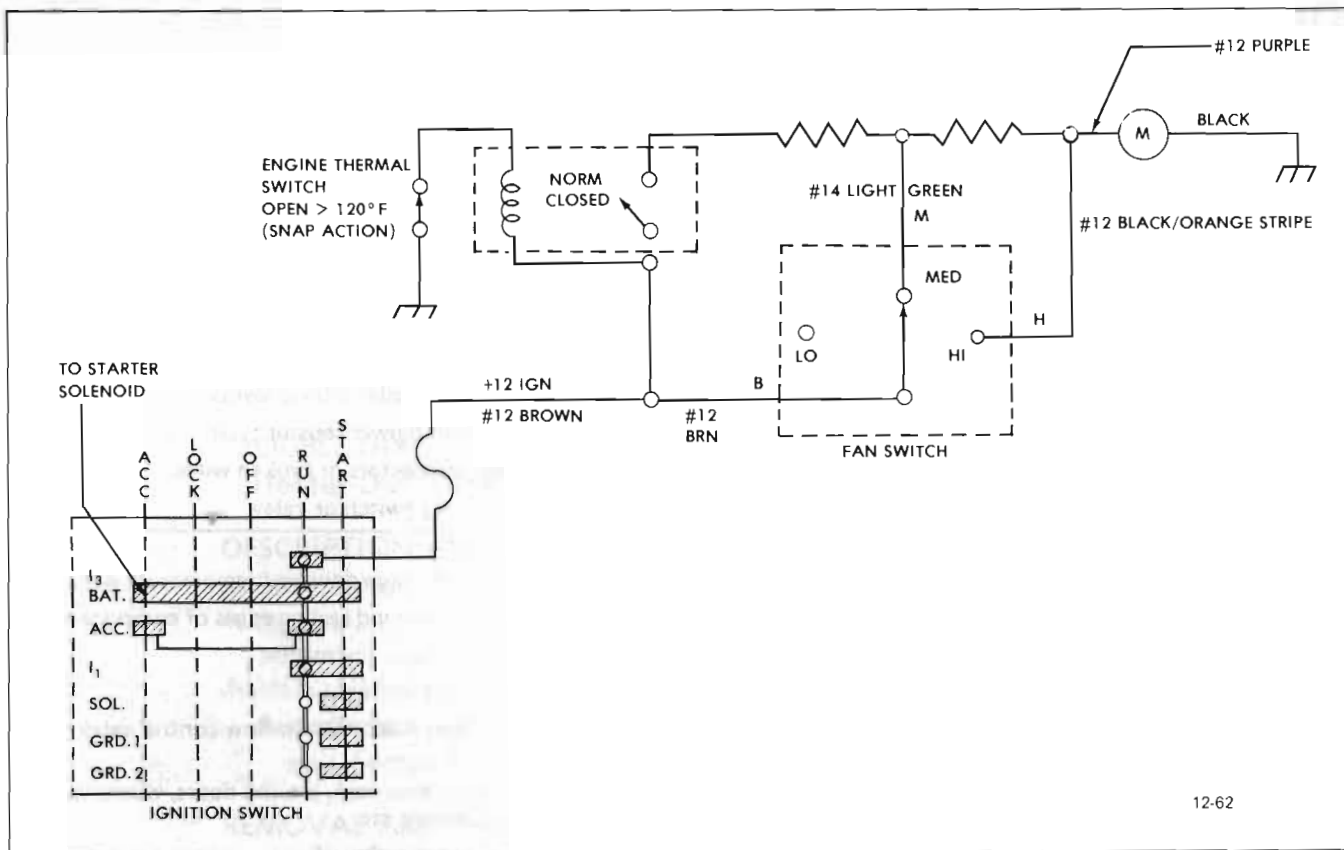

Figure 12-9 Heater System Wiring Diagram
The heater system is an air mix type system in which outside air is heated and then mixed in varying amounts with cooler outside air to attain the desired air temperature. The system consists basically of three parts: (1) the blower and air inlet assembly, (2) the heater assembly and (3) the heater control assembly (see Figure 12-9). The operation of the system is as follows:
1. Blower and Air Inlet Assembly-The blower and air inlet assembly draws outside air through the outside air inlet grille located forward of the windshield reveal molding and channels the air into the heater assembly. The operation of the blower motor is controlled by a FAN switch on the heater control. The motor is connected in series with the three position FAN switch and also the blower resistor assembly. See Figure 12-9. A 25 amp fuse, located in the fuse block, is in series between the blower motor and the battery.